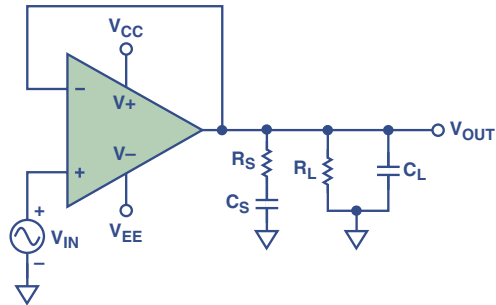

Figure 11. The  $R_S$ - $C_S$  load forms a snubber circuit to reduce the phase shift caused by  $C_L$ .
**A:** Yes, with an R-C series circuit from output to ground, the snubber method is recommended for lower voltage applications, where the full output swing is needed (Figure 11).